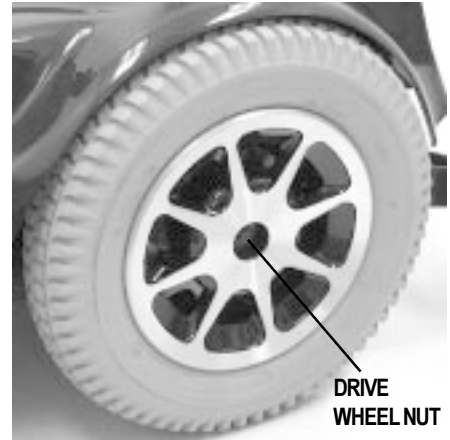

Figure 41. Drive Wheel
2. Use a 3/4-in. socket wrench to remove the drive wheel nut from the center hub of the wheel. See figure 41.